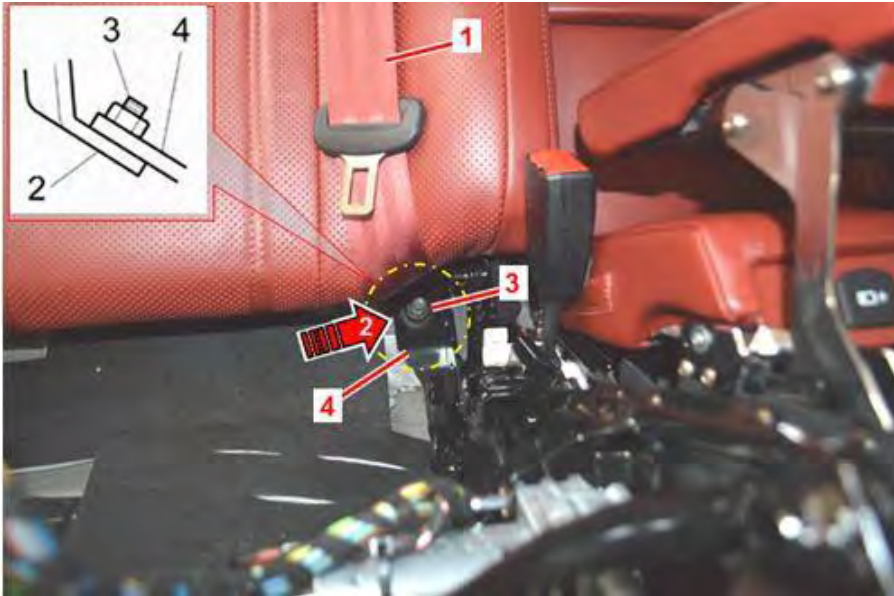

Figure 29
- Referring to Figure 29 - Before installing the right hand squab - Clean any excess adhesive which may have transferred onto right hand thread